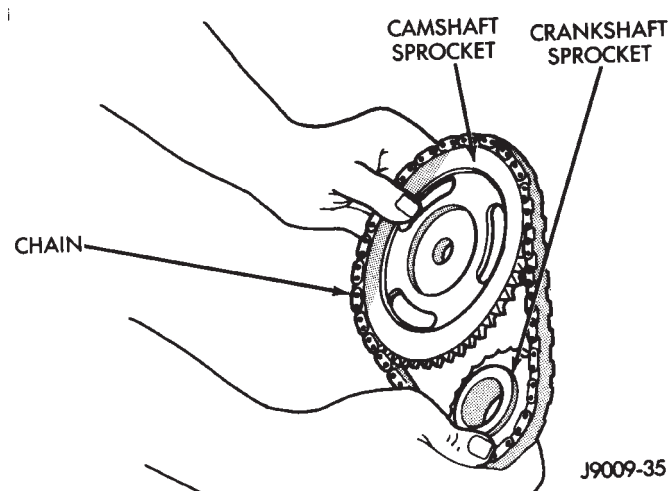

Fig. 49 Camshaft and Crankshaft Sprocket and Chain
- (11) Remove camshaft sprocket retaining bolt.
- (12) Remove the crankshaft oil slinger.
- (13) Remove the sprockets and chain as an assembly (Fig. 49).